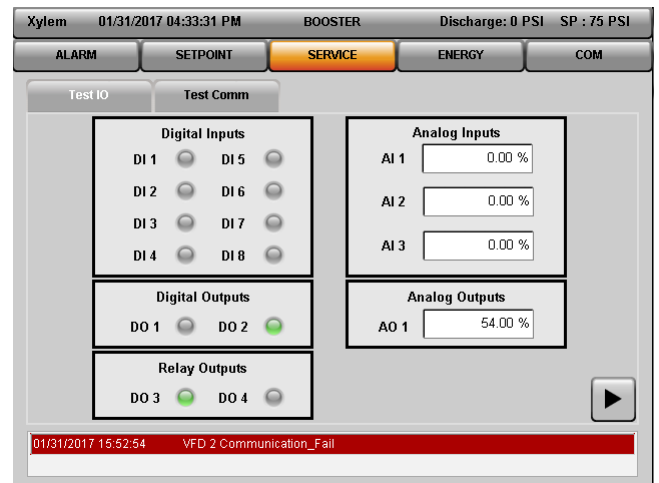

Figure 5.5.35 – Test IO
- **Analog Input** - Value of Analog Input can be monitored on the numeric display as shown in figure 5.5.35. Analog Inputs can only be read.